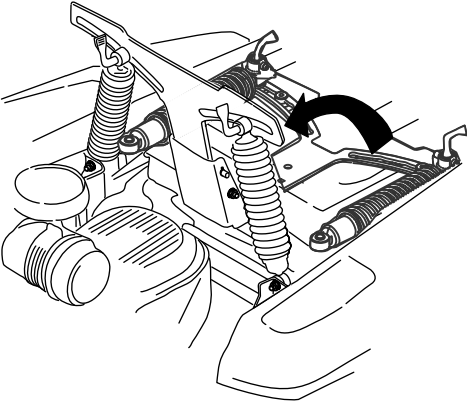

Figure 2
1. Rotate the suspension up (Figure 2).